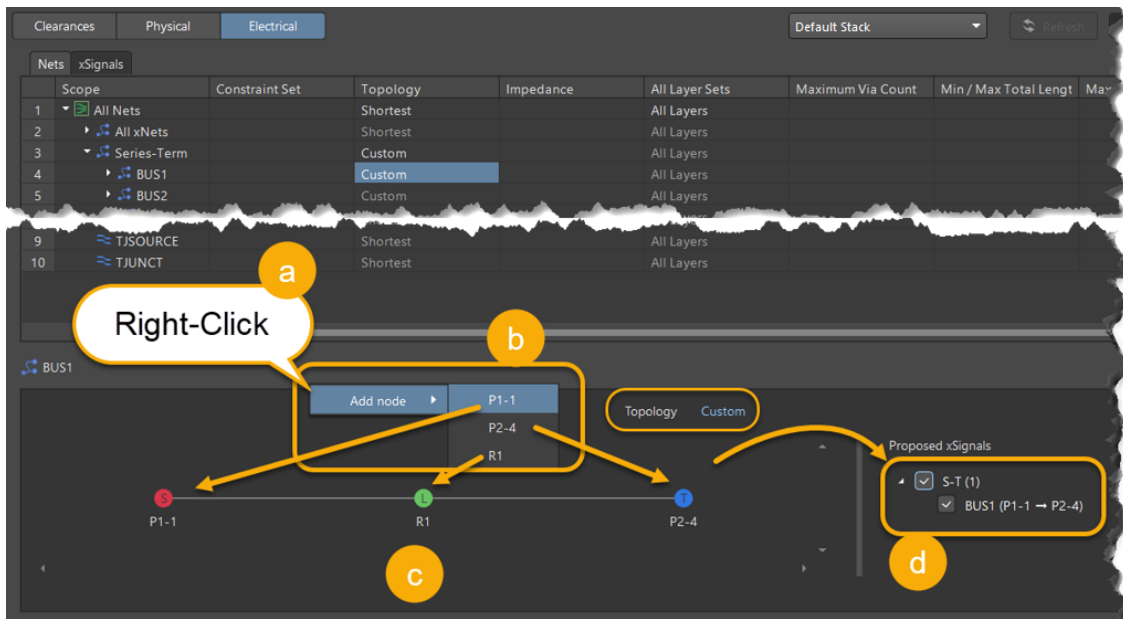

Figure 8. Signal Topology and xSignal
21. In the topology graph area, Figure 8: